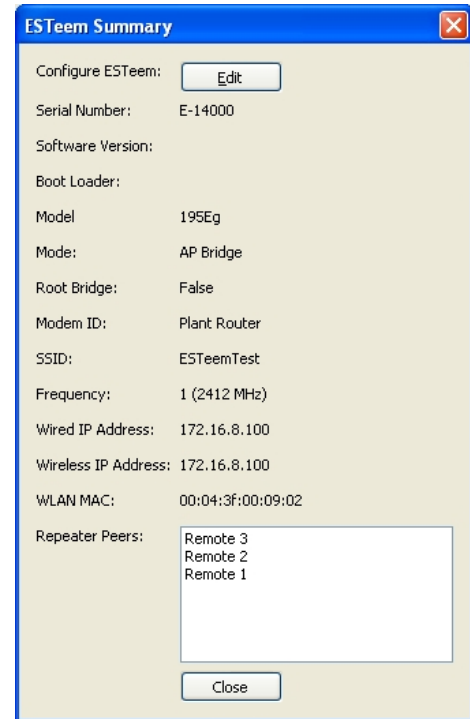

Figure 20: ESTeem Summary Page
- By default, the ENC Utility sets all ESTeem modems in AP Bridge mode. To change the Plant Router ESTeem to AP Router mode, double-click on the icon to bring up the ESTeem Summary window and press the Edit button (Figure 20).
3. By default, the ENC Utility sets all station mode ESTeem modems to EtherStation mode. The only adjustment necessary to the EtherStation modem in our example is to enter the connected Ethernet device’s MAC address. The ESTeem 195C/M will “clone” the Ethernet MAC address of the connected Ethernet device. To configure the EtherStation modem, double-click on the icon to bring up the ESTeem Summary window and press the Edit button (Figure 20).
- To configure the two other modems, double-click on their icons to bring up the ESTeem Summary window and press the Edit button (Figure 20).